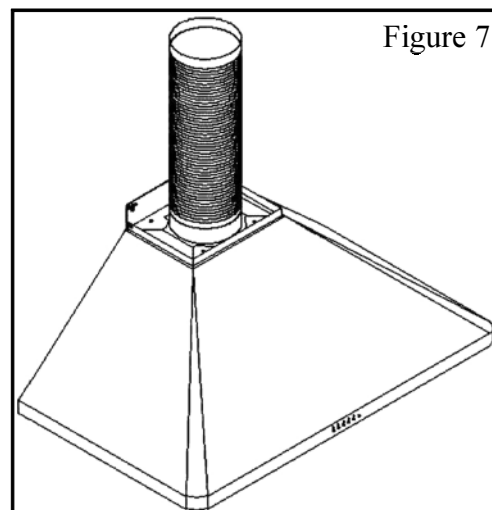

Figure 7
6. Use 6" round steel pipe (follow building codes in your area) to connect the exhaust on the hood to the duct-work above. Use silver tape or duct tape to make all joints secure and air tight. Refer to Figure 7.